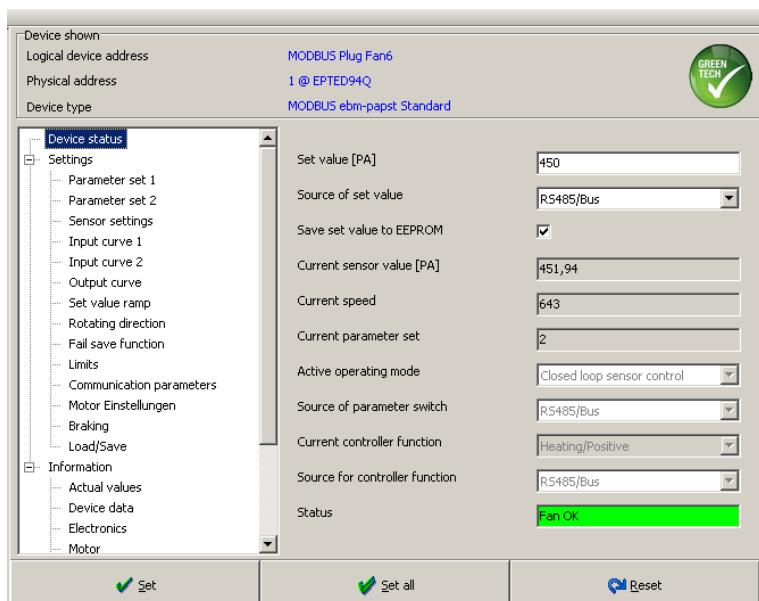

Fig. 59: digital setting of values for parameter set 2, differential pressure 450 Pa, enter set value for night switching
- Under Overview, activate the function Save set value to EEPROM (see Fig. 59)
- Under Overview, enter the set value (see Fig. 59)